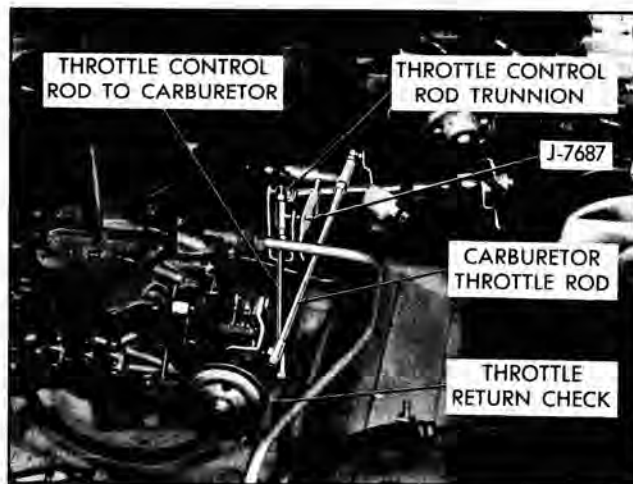

Fig. 34 Linkage Pin Installed
2. Loosen both nuts at transmission throttle control rod trunnion (Fig. 34).
4. Shut off engine and install linkage adjustment pin J-7687 through holes in throttle control lever and bracket (Fig. 34).
5. With throttle valves fully closed against stop (low stop of fast idle cam), loosen lock nut and adjust length of transmission throttle control rod to carburetor (Fig. 34) so that gauge pin is free in hole. Leave pin installed and tighten lock nut securely. Recheck freeness of gauge pin in holes.
8. Loosen lock nut on carburetor throttle rod (Fig. 34).